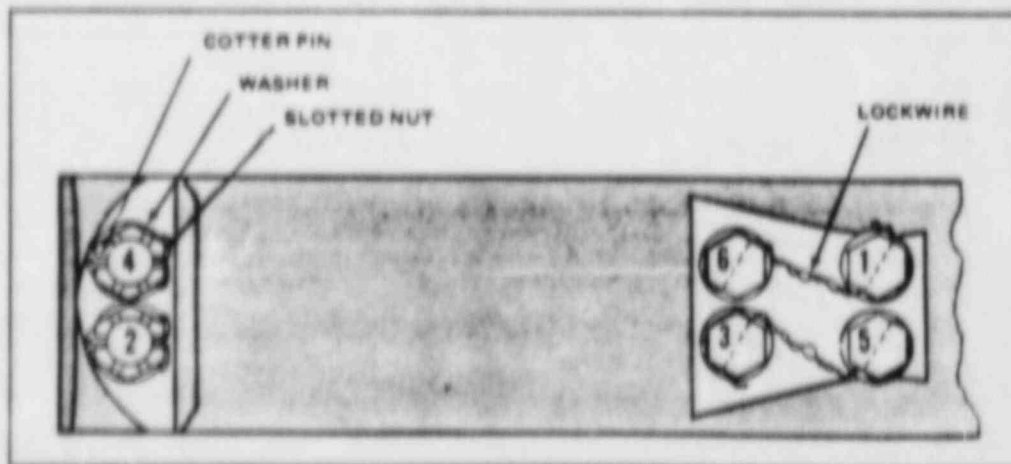

Figure 6-C-15. Tightening Sequence For Connecting Rod Bolts And Nuts
- a. Attach chain puller bracket to master rod side of crankcase. Attach chains in same way as was done for master rod removal (see figure 6-C-3). Draw connecting rod box into engagement with crankpin and master rod. Be sure serrated joints are properly engaged. In the case where the link rod is retained by the piston holder spacer ring, adjustment of the jacket screws and spacer ring may be necessary to achieve the necessary alignment of parts.
b. Apply a mixture of powdered graphite and lubricating oil to the threads of the connecting rod bolts and the rod-to-box bolts. Assemble bolts, washers and nuts. Install washers so that bolt head or nut rests in the counterbore of the washer. Tighten to torque specified in the Torque Tables, Appendix IX in three steps, and in the sequence shown in figure 6-C-15. Safety wire the bolt heads and install cotter pins in the slotted nuts as shown in figure 6-C-15.